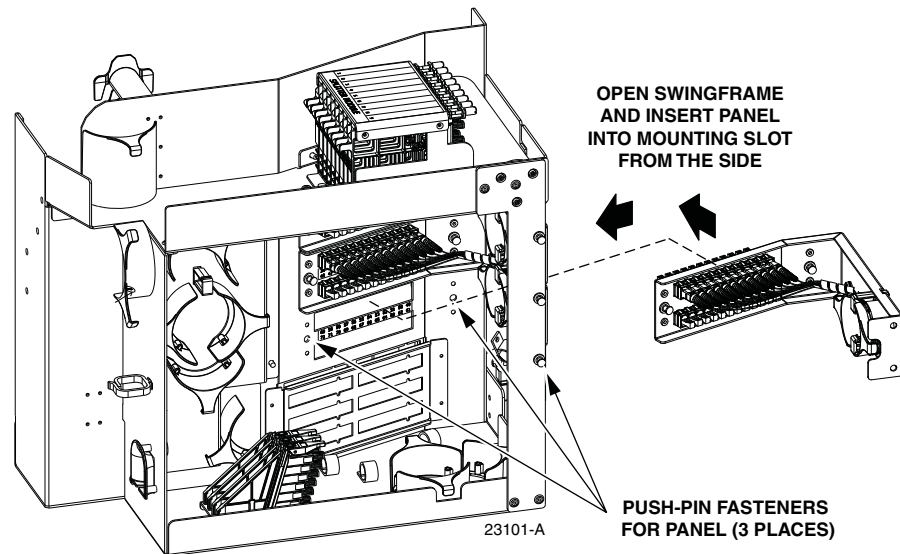

Figure 62. Placing Distribution Panel In Position For Mounting
2. Place the distribution panel in position for mounting on the **rear** side of the swing-out shelf assembly as shown in Figure 62. Use the plastic push pins provided to secure the distribution panel to the rear side of the swing-out shelf.